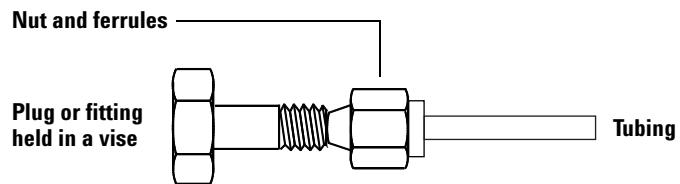

Figure 8 Assembling the fitting
- 3** Push the tubing into the stainless steel plug (Figure 8).